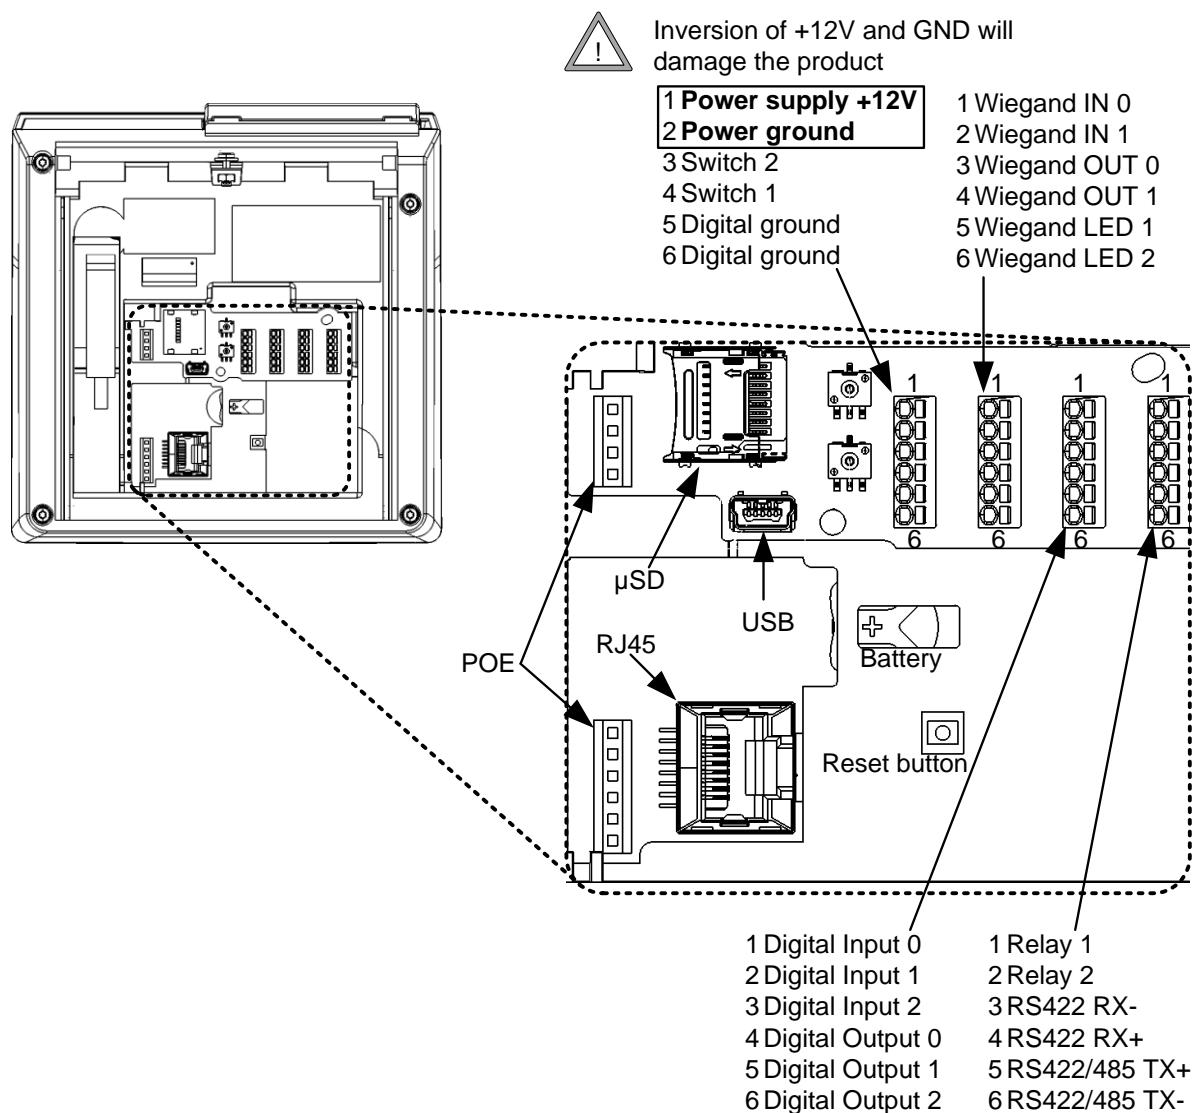

Figure 5: MorphoAccess® SIGMA Series Terminal Rear View Diagram
But when the terminal is connected to the network by the Ethernet connector block (Figure 5), only power supply over the data pins is possible.
A hardware reset button (ref Figure 5) executes, when pressed, a power down/power up sequence and can therefore be used to force a full terminal restart (hardware and software).
The terminal provides several ports for its management (Refer Figure 5):
- an **Ethernet link**: through the RJ45 connector (ref RJ45/POE on Figure 5) or the connector block (ref B on Figure 5) using UDP or TCP or SSL protocol,
- a **Wi-Fi™ link**: by connecting a USB Wi-Fi™ adapter in the USB rear port (ref B on Figure 5), using the UDP or TCP or SSL protocol,
- A **Serial Port** (ref B on Figure 5), using the Wiegand or Clock & Data or RS422/RS485 protocol.